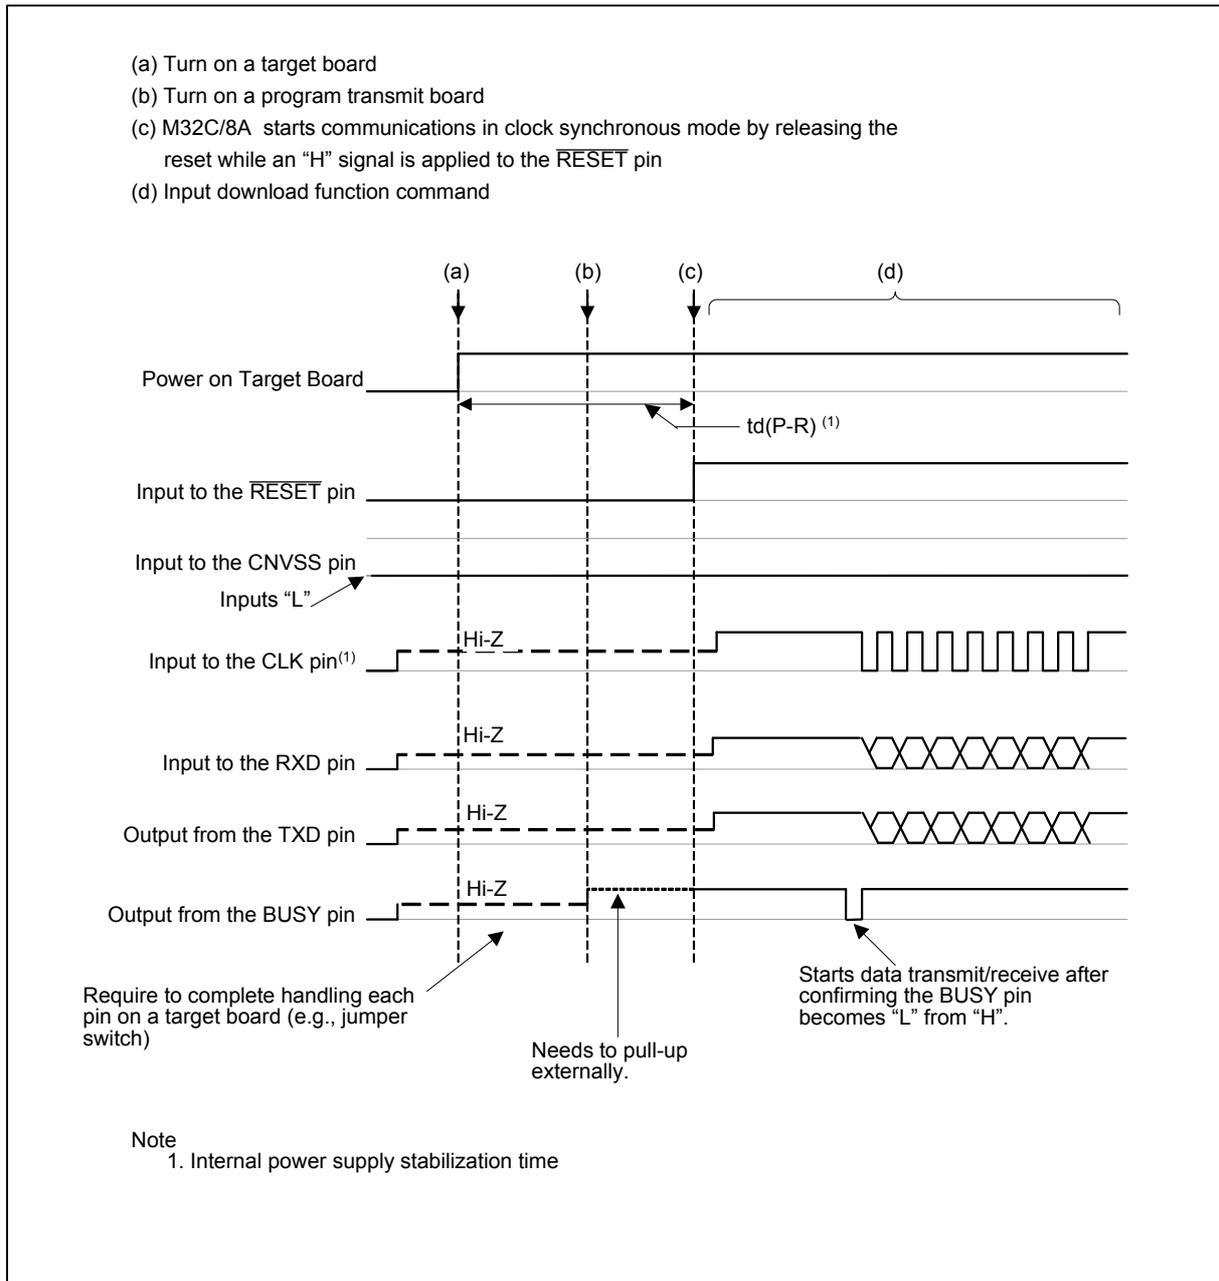

Figure 4.1 Timing Diagram of pin input/output in M32C/8A (Clock Synchronous Mode)
Figure 4.1 shows the input/output timing diagram. The program download procedure in clock synchronous mode is shown as follows;
- (1) Turn on a target board (Refer to Figure 4.1 (a)) and set input pins to status shown in Figure 4.1 (b).
- (2) M32C/8A starts communications in clock synchronous mode by applying “H” to the RESET pin from the status of (1). Apply the CLK1 pin to “H” in M32C/8A after the RESET pin becomes “H”.
- (3) M32C/8A becomes the reception waiting status when the initialization is completed and the BUSY pin becomes “L”.
- (4) M32C/8A becomes receiving status when data reception is started and the BUSY pin becomes “H”. When reception and data process are completed, the BUSY pin becomes “L” and waits for next data reception.
- (5) The program download command is transmitted from a program transmit board and M32C/8A writes them into the internal RAM.
- (6) When the checksum values match after completion of writing into the internal RAM, M32C/8A executes the transmitted program from executing start address in the internal RAM. When the checksum values do not match, M32C/8A initializes the internal RAM then waits for (3) process in this procedure.